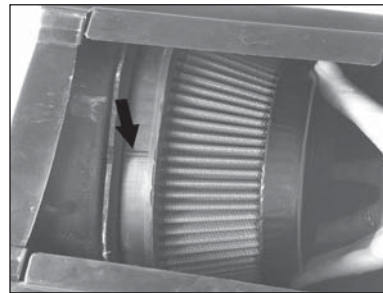

Fig. 2
- 5) Install the base of the filter into the air box and against the backing plate. (Fig. 2)